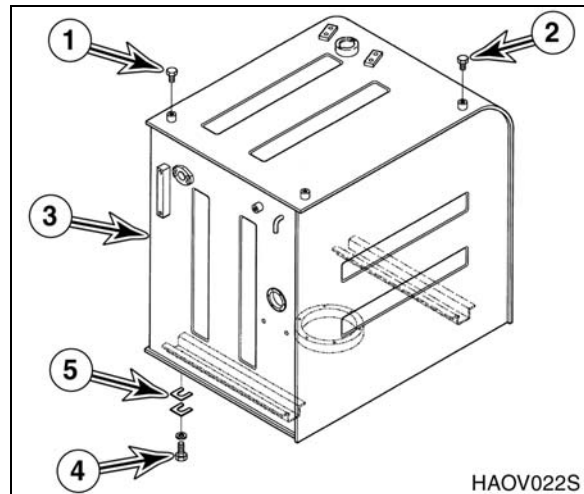

Figure 11
20. Install two 12 mm eyebolts in threaded holes at that bolts (1 and 2, Figure 11) come out of. Using a suitable lifting device, sling eyebolts.
21. Remove four bolts and washers (4) holding tank (3) to frame. Lift tank 25 mm (1") and make sure it is balanced. Make sure that there are no other electrical wires or hoses connected to tank. Completely remove tank after inspection.